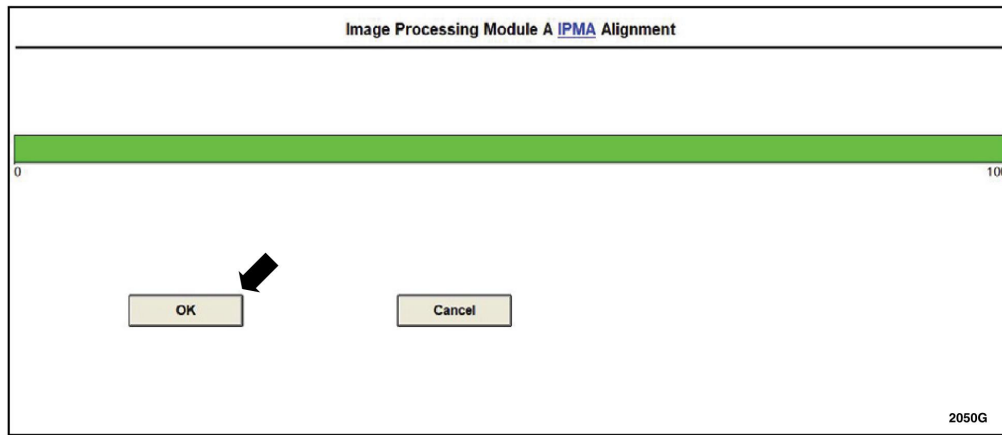

FIGURE 6
14. Once the calibration reaches 100% select "Ok". See Figure 6.